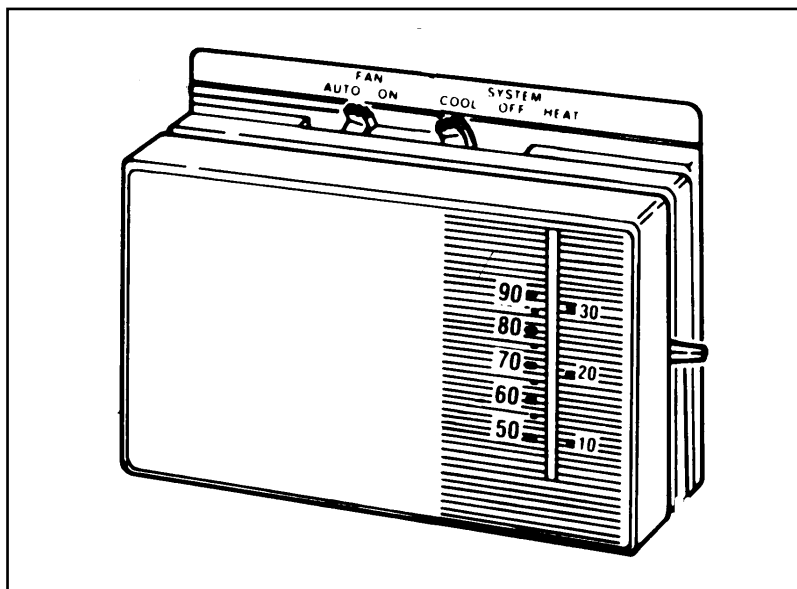

Figure 1. Typical Thermostat
1. Set the thermostat system switch to HEAT and the thermostat fan switch to AUTO. (See Figure 1)
**System Shutdown**—Set the thermostat system switch to OFF and the thermostat fan switch to AUTO. (See Figure 1)
**To Operate the Indoor Blower Continuously**—Set the thermostat fan switch to ON (may be called CONT on some thermostat models). (See Figure 1)